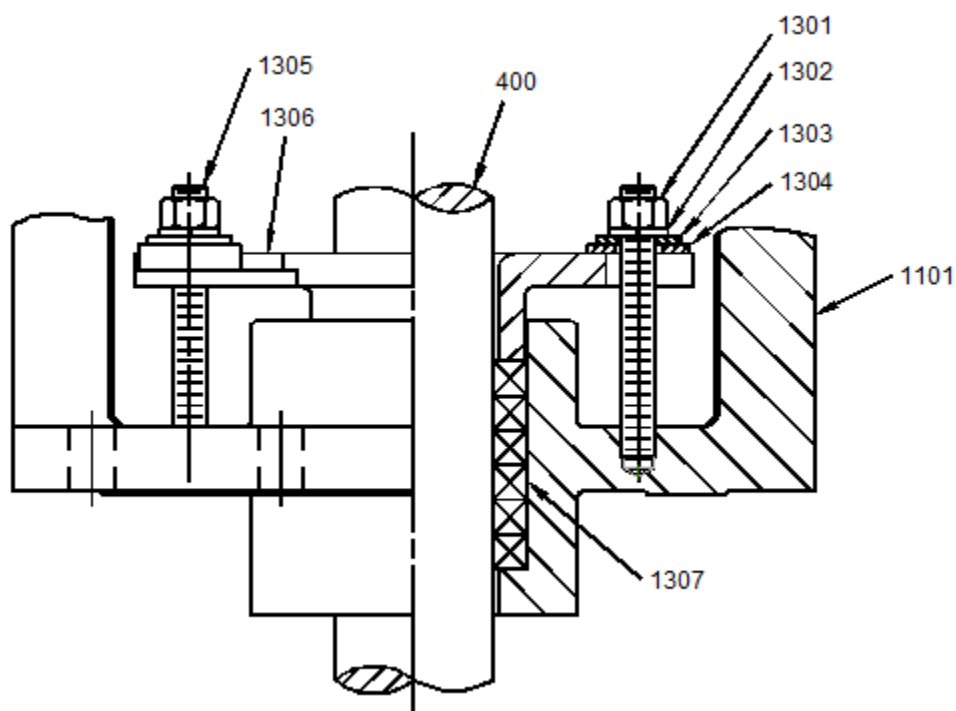

Figure 7: Stuffing Box Installation
11. QED-A: Install threaded studs [1305] into pedestal tapped holes (two at 180 degrees). Install packing rings [1307] into pedestal housing [1101] with packing split staggered. Seat each packing ring as it is installed. Install split packing gland [1306] over threaded studs [1305] with gland clamps [1304], flatwashers [1303], lockwashers [1302], and hex adjusting nuts [1301]. Refer to Figure 7. The split packing gland must be square with the packing housing section of the pedestal. Tighten the hex adjusting nuts.